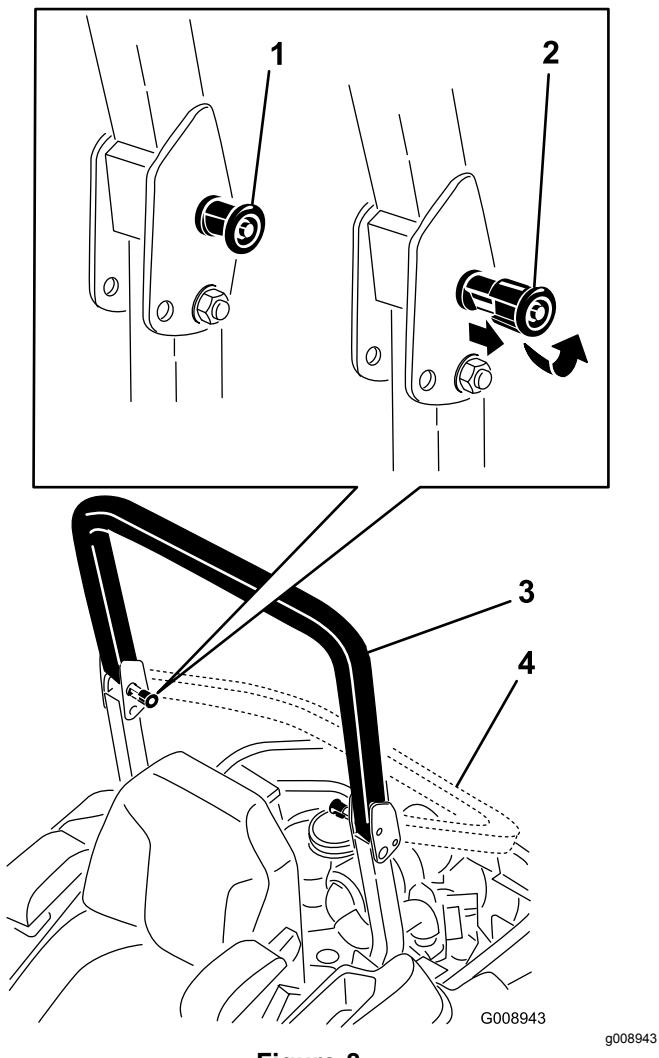

Figure 8
2. Pull both knobs out and rotate them 90° so they are not engaged (Figure 8).
- Lower the roll bar to the down position (Figure 8).
- To raise the roll bar, raise the roll bar to the operate position, rotate the knobs so that they move partially into the grooves (Figure 8).
- Raise the roll bar to the full upright position while pushing on the upper roll bar and the pins will snap into position when the holes align with the pins (Figure 8).